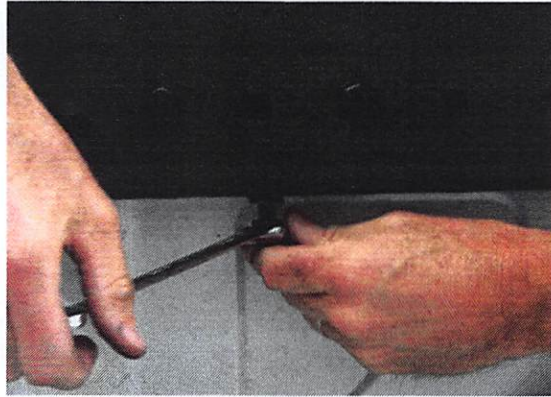

Figure 13: The bolts getting tightened down to secure the bed rails.
Step 15: To install the nut plate use (2) M10x50 bolts. Put them through the bed rail; through the clamp block, and hand thread them into the nut plates. Then tighten the M10x50 bolt that was installed into the clip nuts, tighten until the clamp block is firmly pressed against the underside of the trucks bed lip (do not over tighten). Then using the M10 hex nut thread it up against the clip nut so the M10x50 bolt does not unthread itself. Now torque the bolts in the nut plate to 45 ft-lbs. Figure 13 shows the bolts getting tightened down.